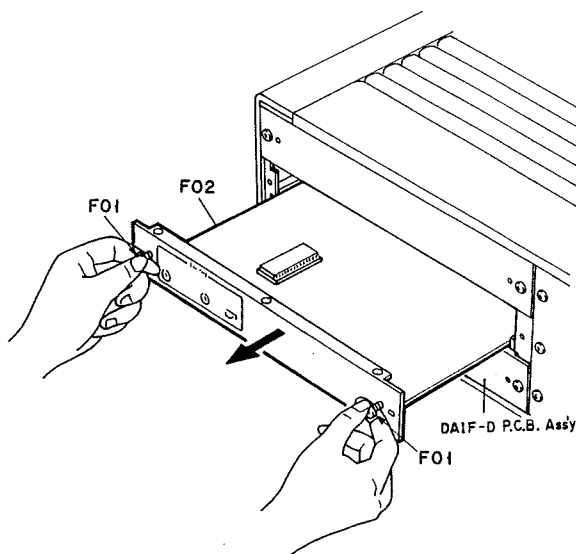

Fig. 2.7.2
- (2) Hold the screw heads and pull out P.C.B. Ass'y along card rails. See Fig. 2.7.2.